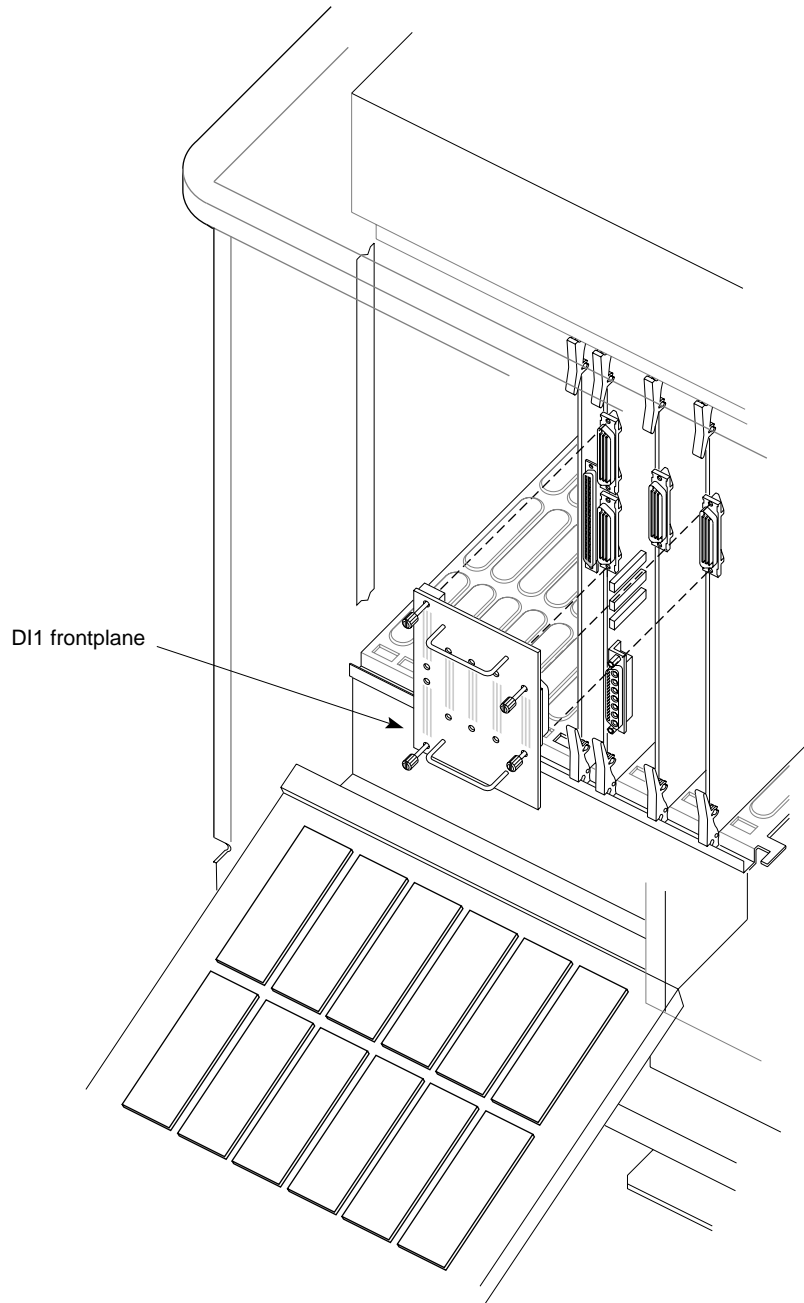

Figure 4-4 Installing the DI1 Board
7. Remove any boards occupying the required slots (see Figure 4-4) and install the GE10, DG2 and RM4 boards as shown. Ensure that each board's backplane connectors are correctly seated and that its ejector tabs have engaged the top and bottom card guides.
8. Install the DI1 board as shown in Figure 4-4.